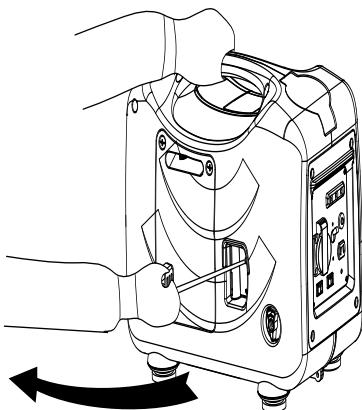
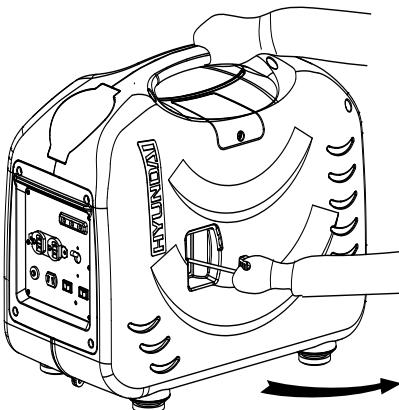

Fig. 4.6
Fig. 4.7
4. Pull slightly on the starter grip until you feel resistance and then pull briskly. (Refer to Fig. 4.6 for HY1000Si and Fig. 4.7 for HY2000Si)